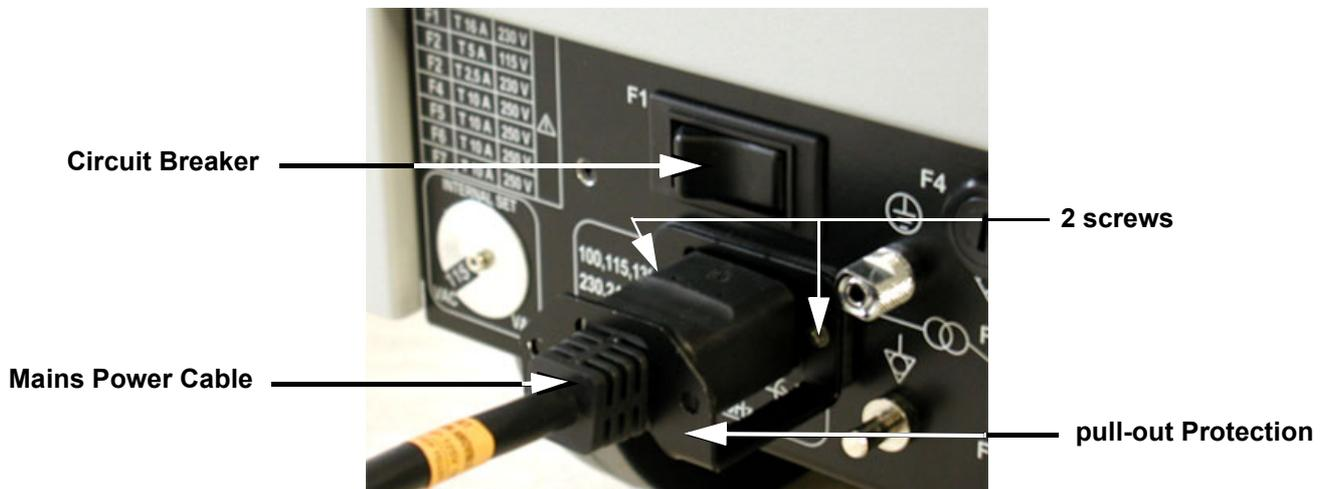

Figure 4-1 Circuit Breaker, Protection and Power Cable on back of Voluson® 730Expert
- 3.) After complete power down, unscrew the 2 screws and remove the pull-out protection to disconnect the main power cable from the system or unplug it from the AC wall outlet socket. Refer to Figure 4-1 on page 4-2.